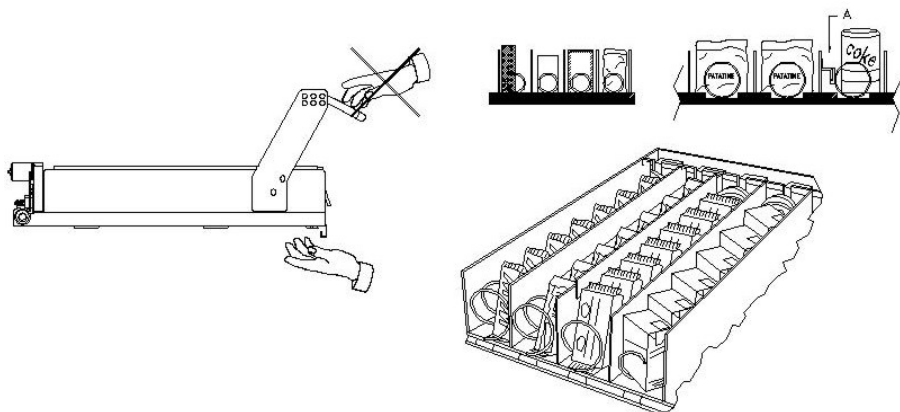

fig. 3
8.2 TRENnwÄNDE FÜR PRODUKTE IN DEN SCHUBLADEN (fig.3)